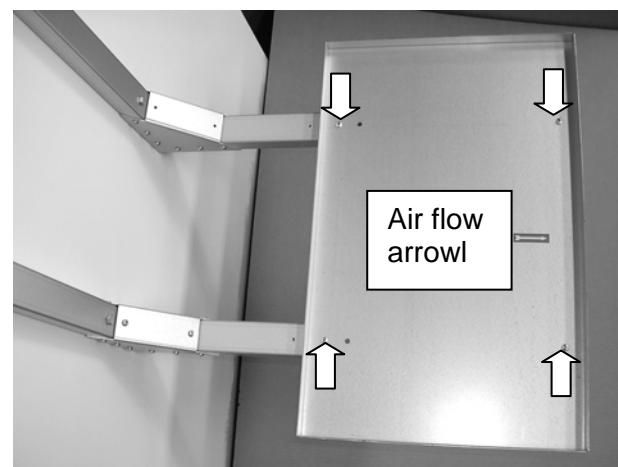

Fig 2
- Fit the support plate with the air flow arrow pointing in the direction in which the dehumidifier discharges air. If the dehumidifier is to discharge the air straight out from the wall, fit as shown in Fig. 2. Secure the plate with four ST4.8x13 screws (see the arrows in Fig. 2).